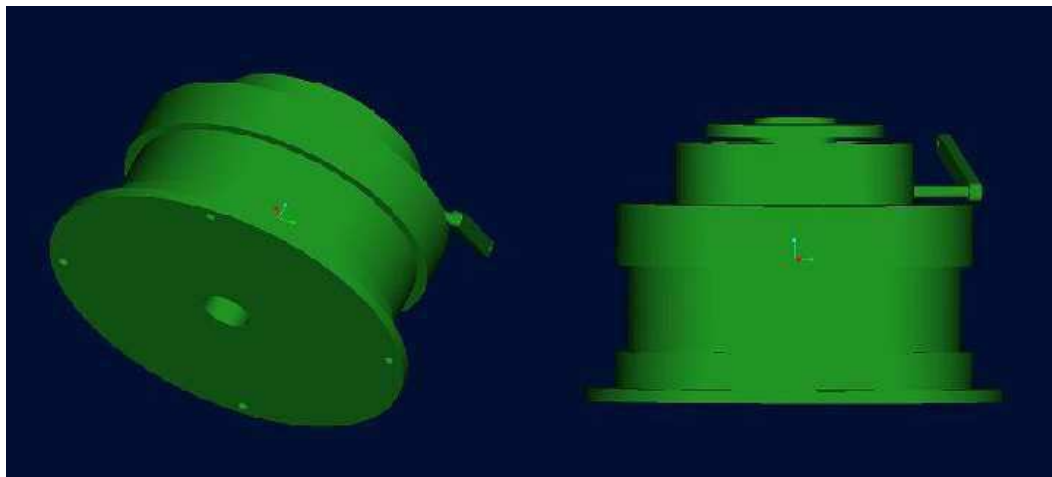

Fig 3
Step 2: Install the Inner Ring on the axis of the generator, tighten with bolt and Set Screw as shown in Figure 3.